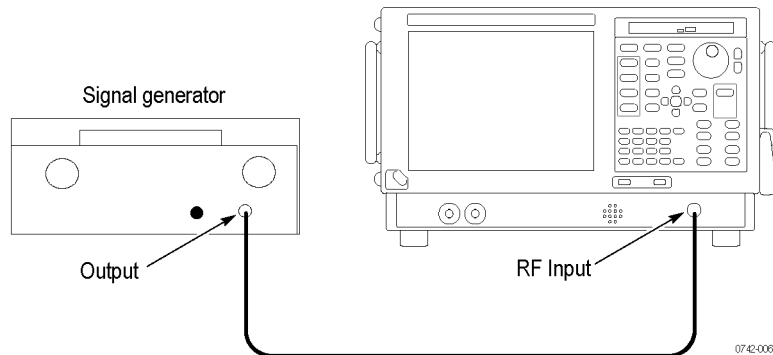

Figure 18: Equipment connections for Signal Spurious check
1. Connect the RF generator to the SPECMON analyzer RF Input. (See Figure 18.)